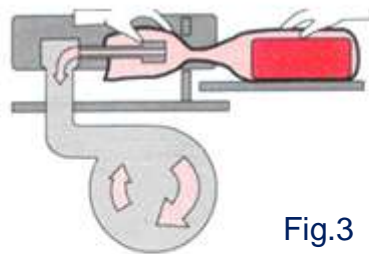

Fig.3
- Place the bag containing the product on the special tray of the machine, and put the open part of the bag on the nozzle (Fig. 3).